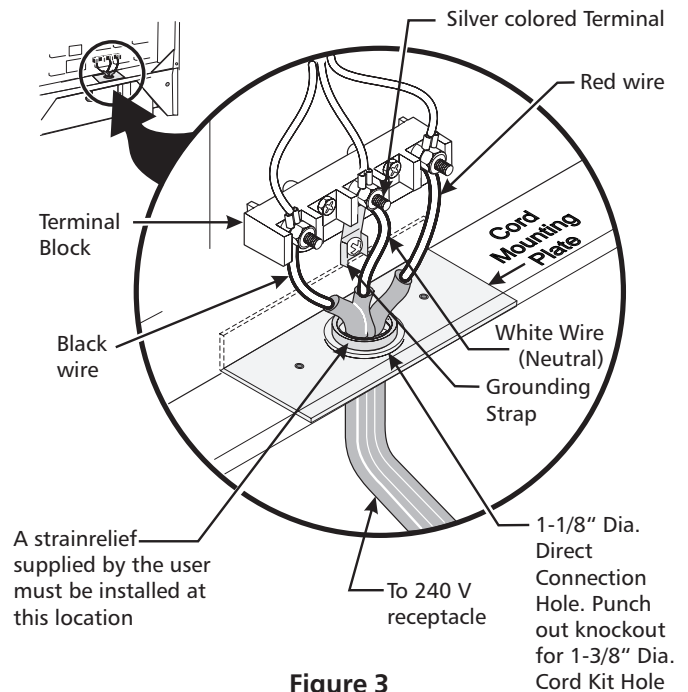

Figure 3
**NOTE:** Electric Slide-in Range is shipped from factory with 1 1/8" (2.9 cm) dia. hole as shown on figure 3. If a larger hole is required, punch out the knockout.
(The 3-conductor cord or cable must be replaced with a 4-conductor cord or cable where grounding through the neutral conductor is prohibited in new installations, mobile homes, recreational vehicles or in other areas where local codes do not permit neutral grounding) If local codes permit connection of the frame grounding conductor to the neutral wire of the copper power supply cord (see Figure 3):
4. Replace the 3 nuts on the terminal block. (See Figure 3)